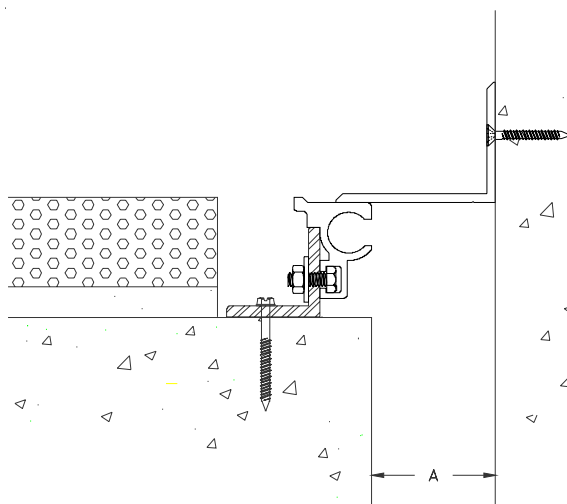

Figure 8
STEP 13. Pour the topping slab or install the pavers in accordance with the manufacturer's instructions and good industry practice (see Figure 8).